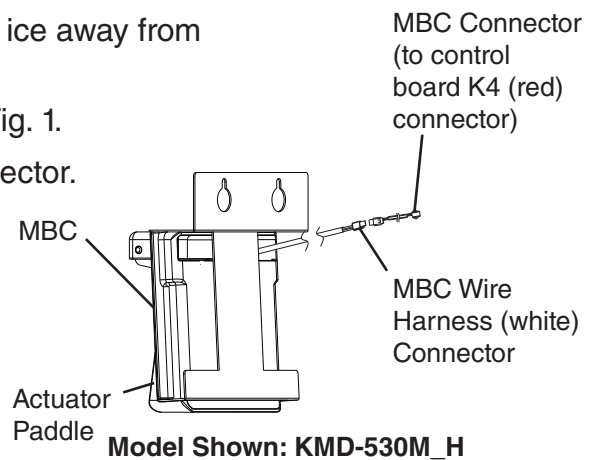

Fig. 1
- 4) Check MBC wire harness connections. See Fig. 1.